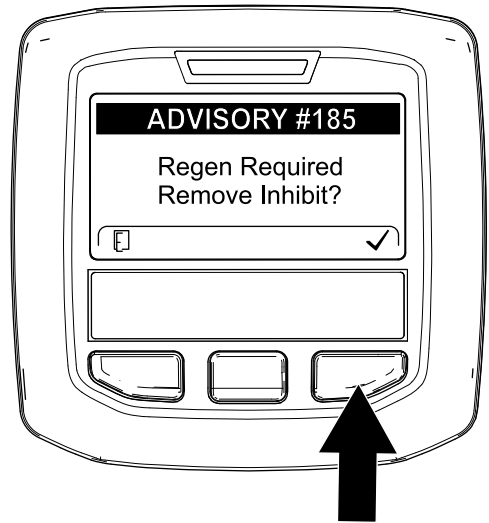

Figure 62
**Note:** If INHIBIT REGEN is set to ON, the InfoCenter displays ADVISORY #185 (Figure 62). Press button 3 to set inhibit regeneration setting to OFF and continue with the reset regeneration.